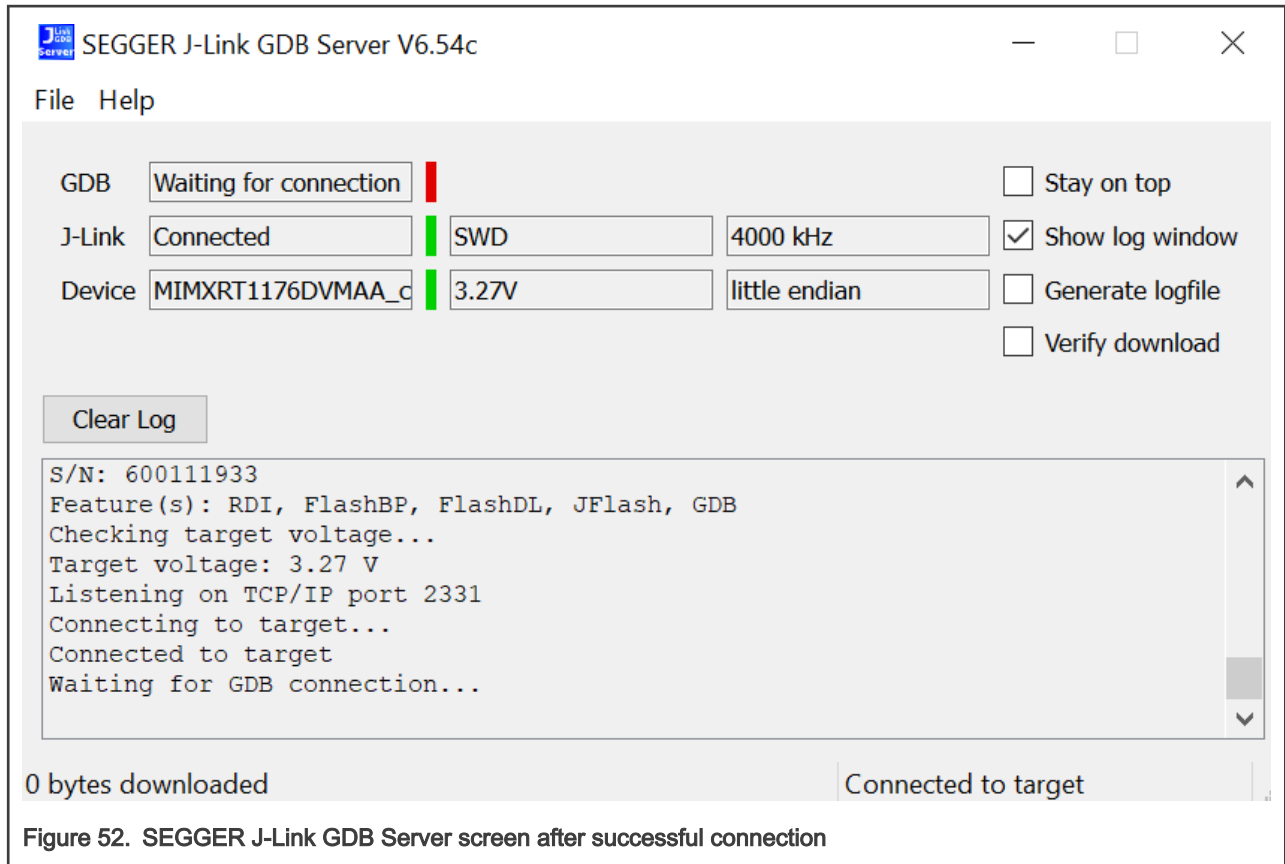

Figure 52. SEGGER J-Link GDB Server screen after successful connection
6. After it is connected, the screen should resemble Figure 52.